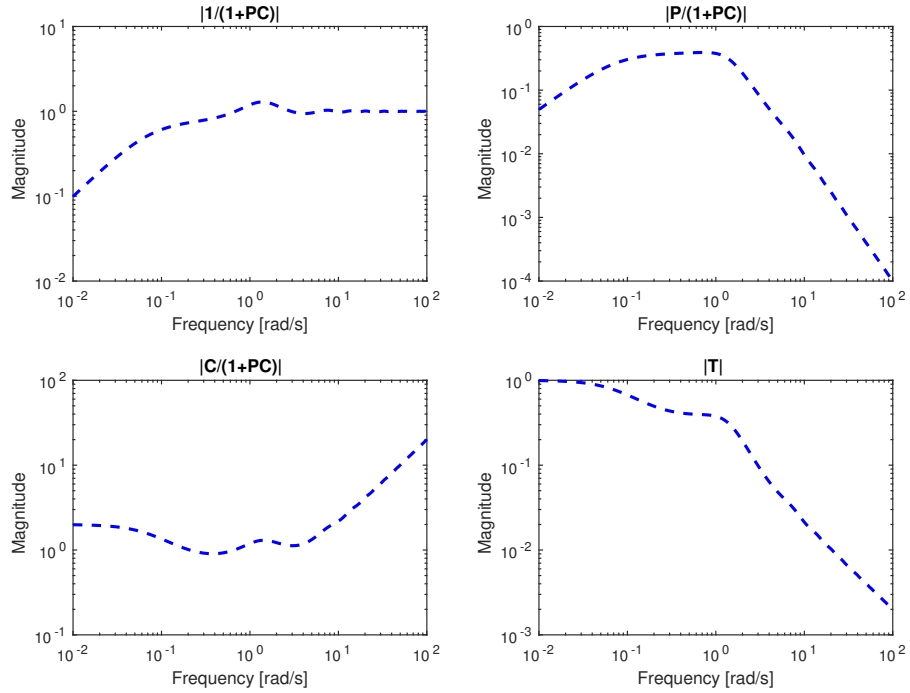
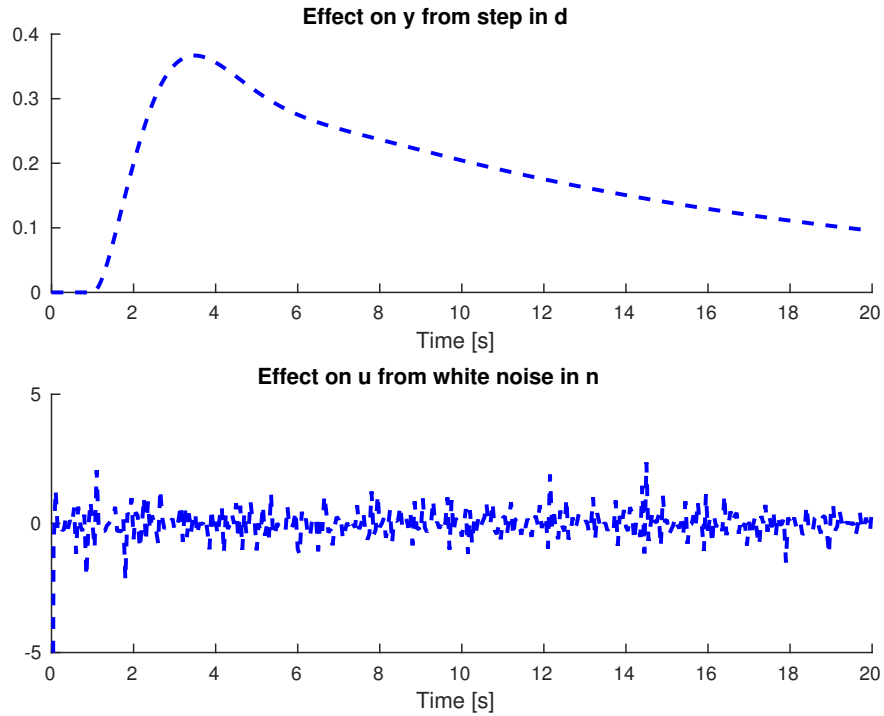

Figure 7 Gang of four for Problem 7.
Figure 8 Effect of a step disturbance on the measured signal y and effect of white measurement noise on the control signal u , for Problem 7.
The gang of four for this controller is plotted in Figure 7 and the effect of a step disturbance and measurement noise is plotted in Figure 8.
- b. As seen in Figure 8 there is significant control signal activity due to measurement noise. Why is this typically bad? How should you change the controller to reduce the impact of measurement noise on the control signal? (1 p)
- c. As seen in Figure 8, a step disturbance in d is attenuated too slowly. How should you change the controller so that the disturbances are rejected faster? Mention two alternatives. (1 p)
- d. Can you conclude only from Figure 7 that the closed-loop system is stable? Motivate your answer. (0.5 p)